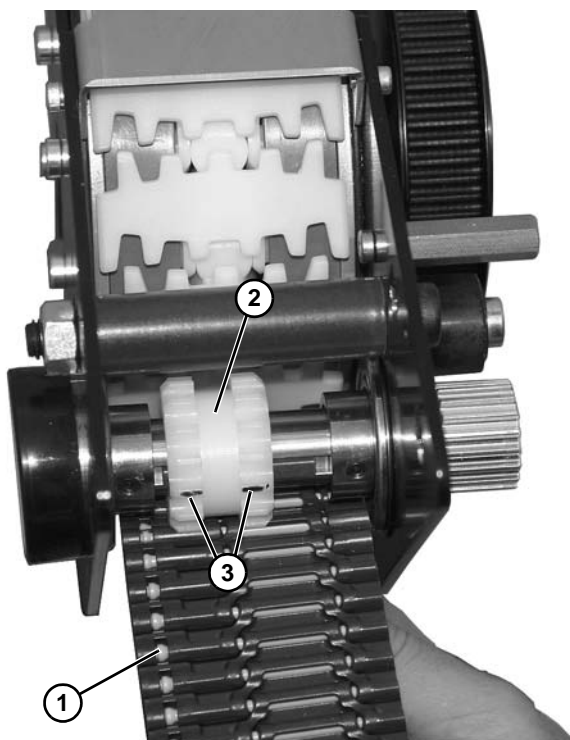

Figure 159
3. Raise belt (**Figure 159, item 1**) into position, and move gear (**Figure 159, item 2**) so that cogs line up with belt, as shown.
4. Tighten sprocket with set screws (**Figure 159, item 3**) in proper alignment with belt (**Figure 159, item 1**).